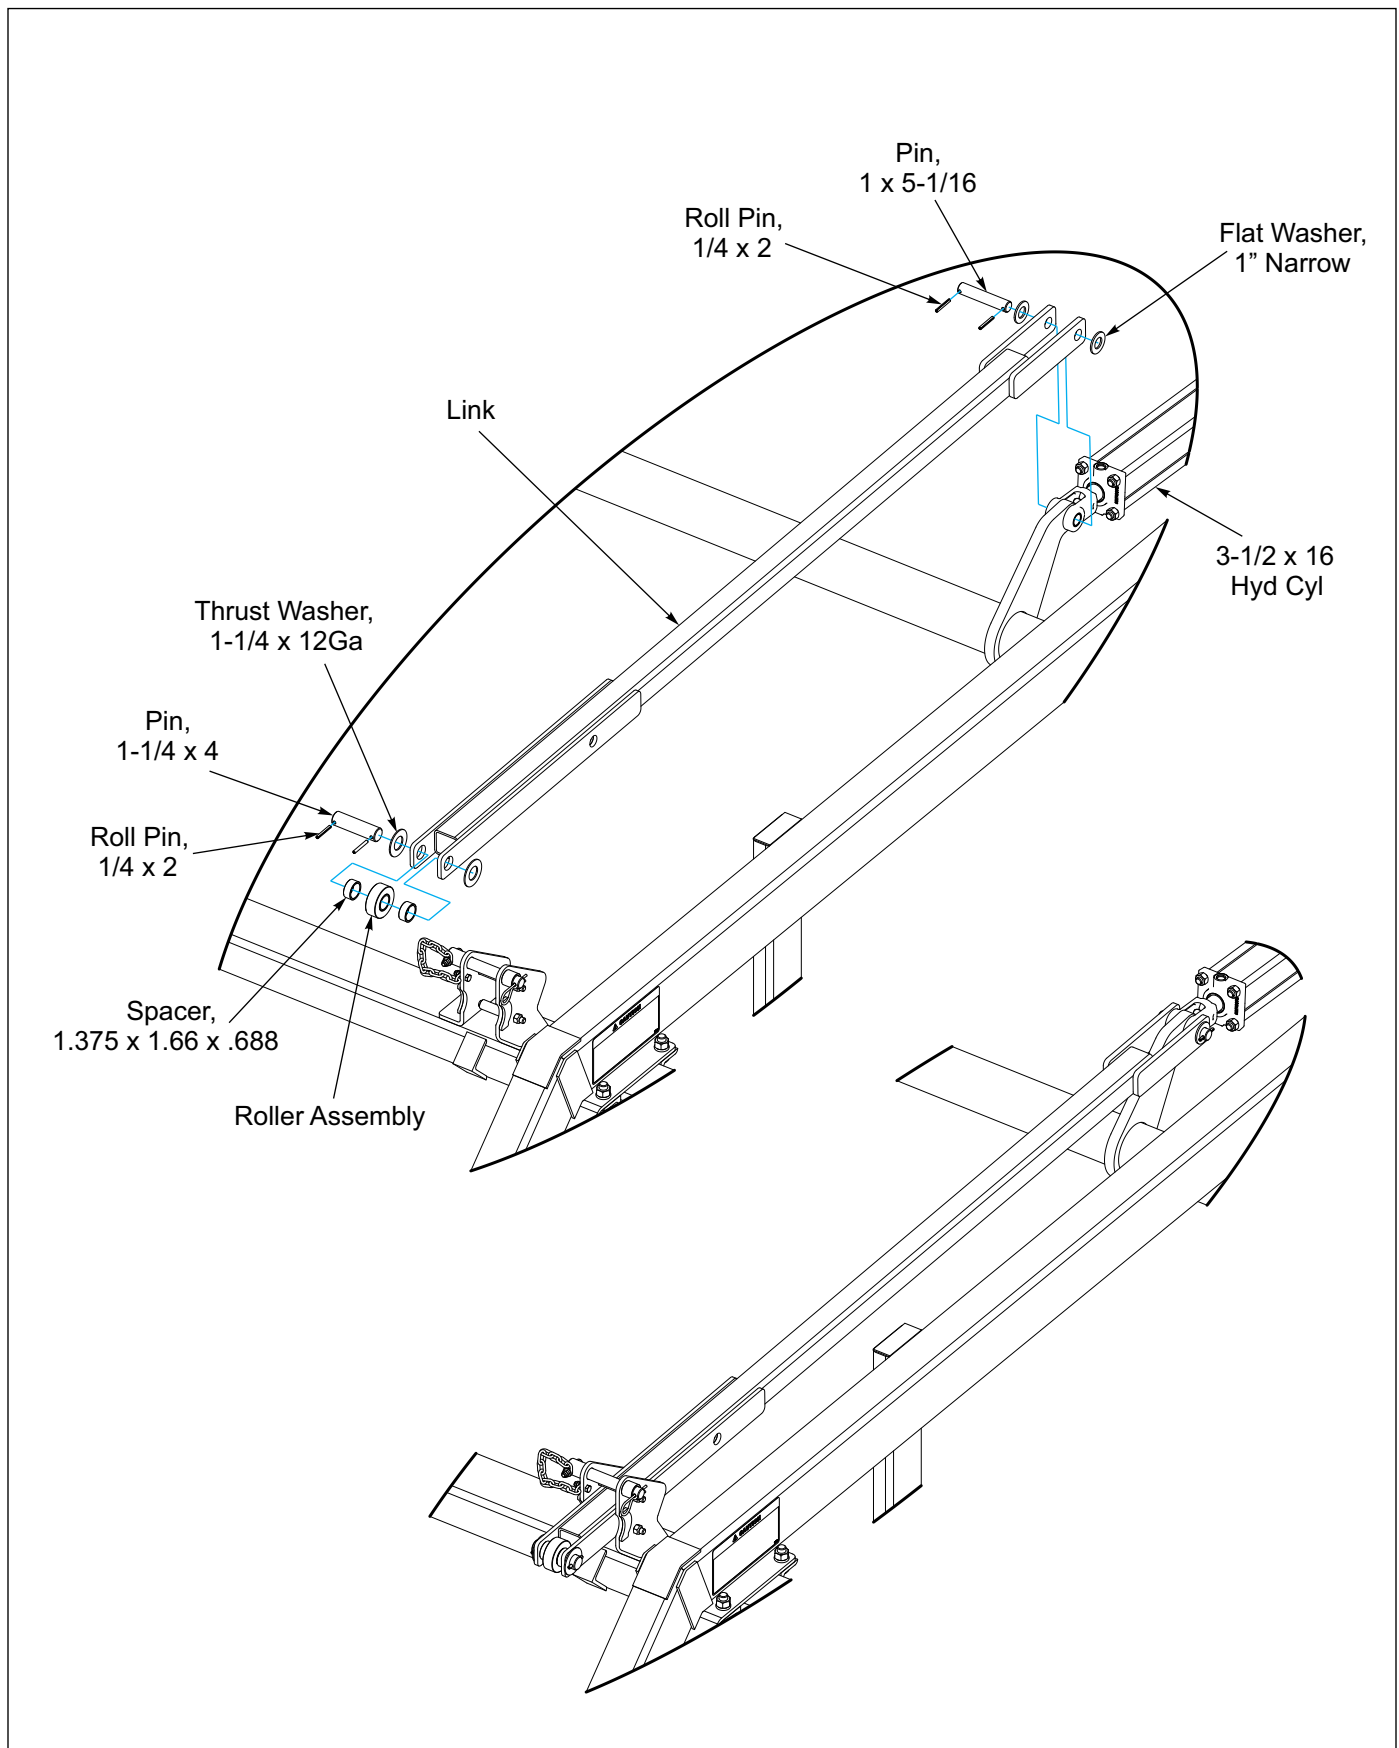

Figure 2-5: Transport Axle Link
2. Install the base end of the 3 1/2 x 16 Hydraulic Cylinder with ports up to the Rear Frame Lug and the Rod End to the Rockshaft Arm with the pins provided **See Figure 2-5.**
See Figure 2-5.